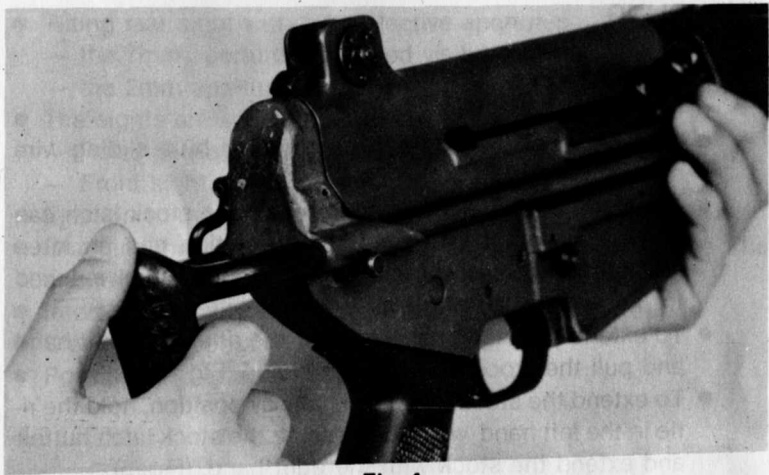

Fig. 4
- To extend the stock halfway, hold the rifle in the left hand and pull the stock with the right hand (Fig. 4)